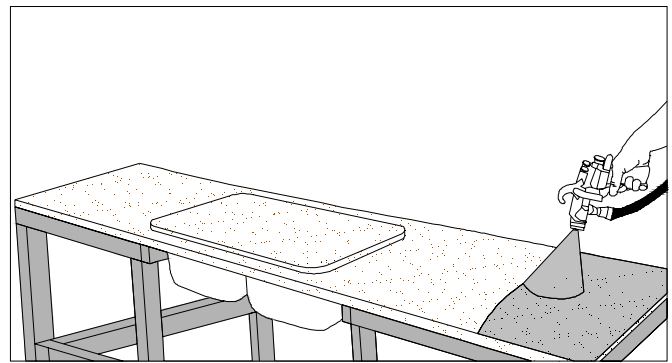

Figure 20B
- Apply contact on the substrate per manufacturer's recommendations. (FIG. 20B)